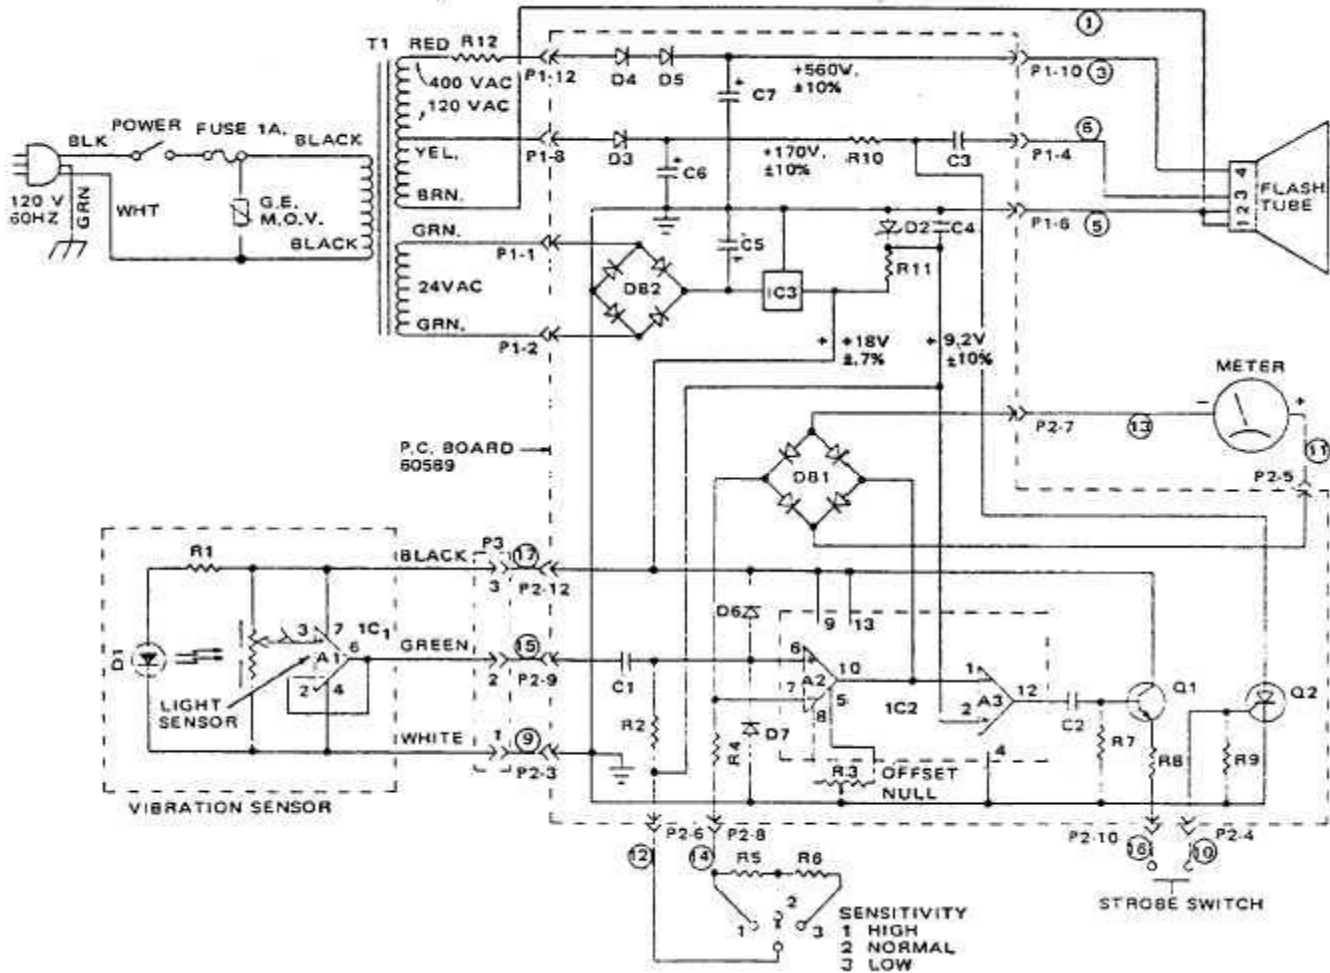

Figure 6. Schematic
13. With the reference mark in this correct position, apply the INITIAL WEIGHT to the top position of the wheel, figure 6. While the selection of the initial weight depends somewhat on judgement, experience and feel, a good starting point is 1- 1/2 ozs.